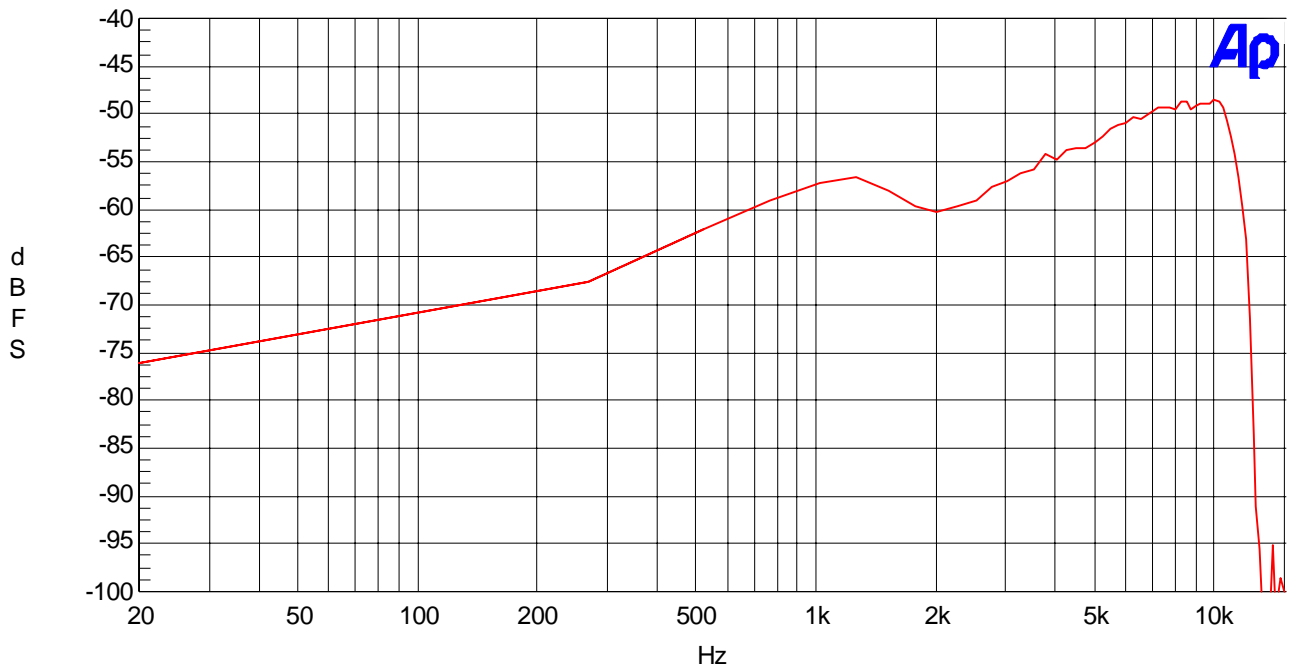

Figure 17. THD+N vs. Input Frequency (-15dB)
- Figure 17. THD+N vs. Input Frequency (-15dB)